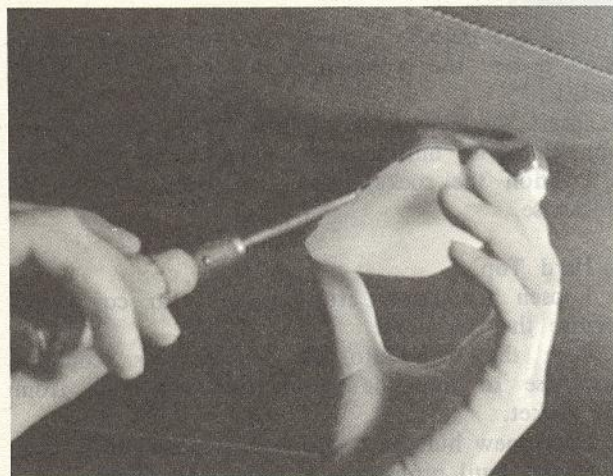

Fig. 15-13 Removing lens
1. Insert screwdriver blade in slot between interior light housing and lens as shown in Fig. 15-13.